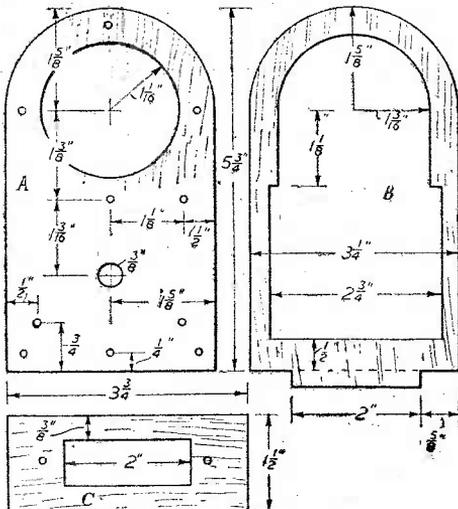

Fig. 1.—Size and shape of front panel, body and base.
The front panel (A) shown at Fig. 1 is cut from  $\frac{1}{8}$  in. thick plywood or fretwood. Before cutting the aperture into which the ear-telephone piece fits, the casing of the 'phone unit should be measured to find its exact diameter. Therefore, try and pick up an odd, second-hand 'phone unit, particularly a unit having lead terminals on its back. If an all-bakelite unit is used, it will be necessary to cut a small notch in the edge of the aperture to allow for the leads protruding from one side of the casing.